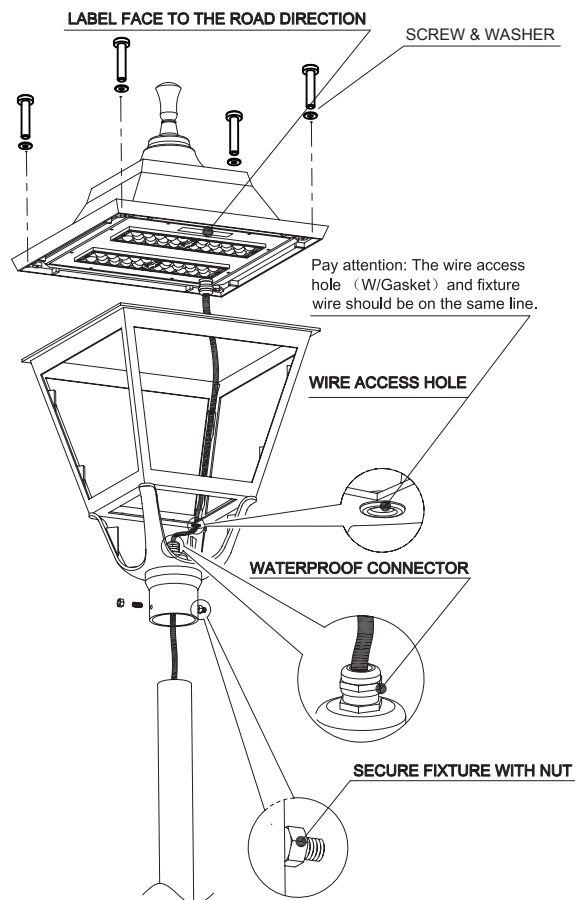

Figure 2
2. Attach the Upper part to the Bottom part and secure them with supplied Screws and Washers(4). See Figure 2.
3. Pull the fixture wire through Wire Access Hole and Waterproof Connector. Then tighten the Waterproof Connector Nut. See Figure 2.
4. Make the wiring connections with supplied Wire Nut (3) and knot the wires for strain relief.
5. Slip the fixture over a pole or tenon. Then secure the fixture with Set Screw (4) and Nut (4). See Figure2.